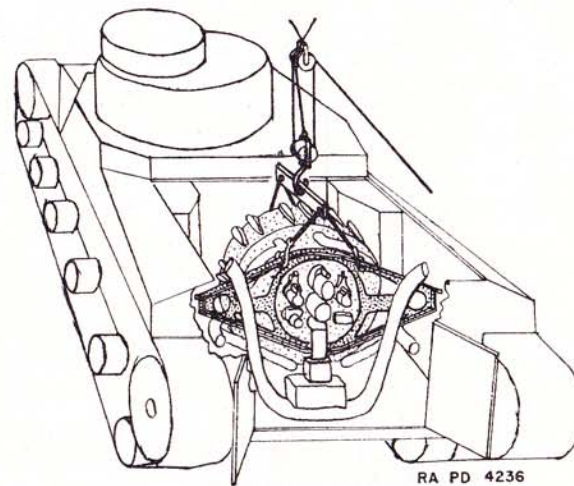

FIGURE 29.—Hoisting of engine, end view.
*b. To remove engine* (see figs. 29 and 30).—(1) Open master switches beneath turret.
(2) Shut off all gasoline shut-off valves inside and outside hull. Remove outside handles.
(3) Remove bolts holding armor plates over engine ( $\frac{7}{8}$ -inch wrench). Open engine doors.
(4) Remove grill from front edge of armor plates over engine ( $\frac{9}{16}$ -inch socket).
(5) Remove cap screws holding shrouding to front section of armor plate ( $\frac{9}{16}$ -inch wrench).
(6) Attach sling and remove armor plates with A-frame.
(7) If necessary, detach Homelite exhaust pipe from clamps.